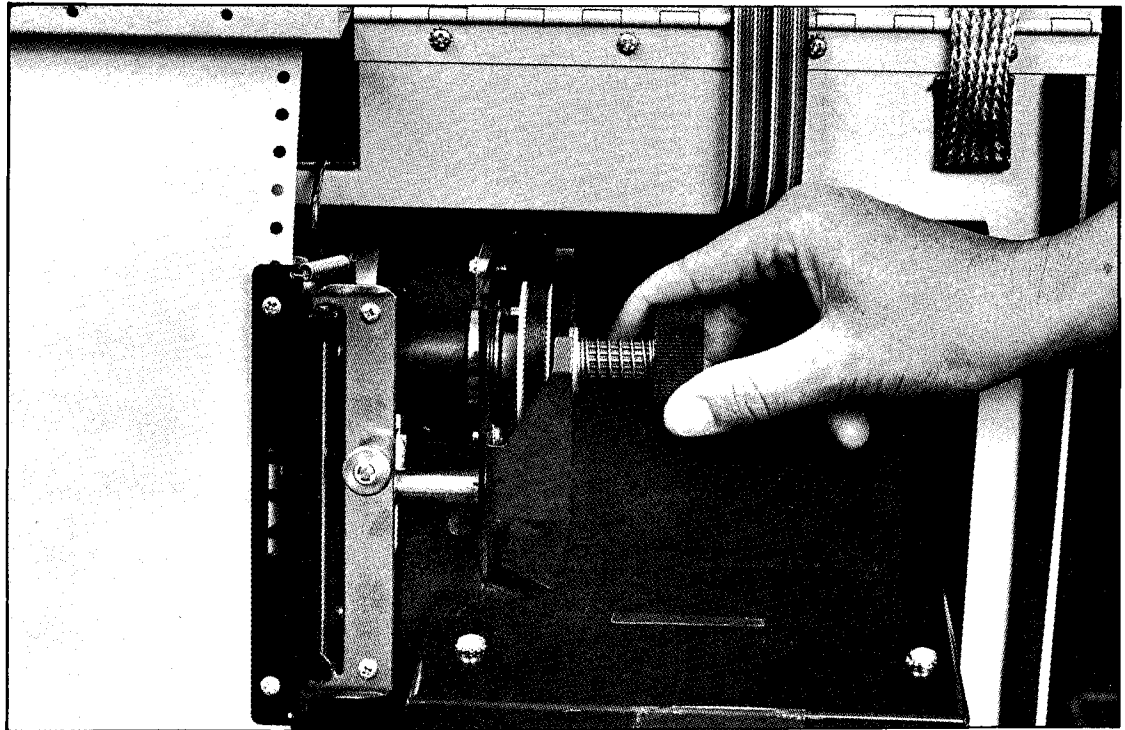

Figure 7. Aligning Top of Form
- Align paper indicator mark on Vertical Forms Control wheel with pointer, then rotate knob exactly one revolution to lower paper to proper position. Indicator mark should once again be aligned with pointer (Figure 7).